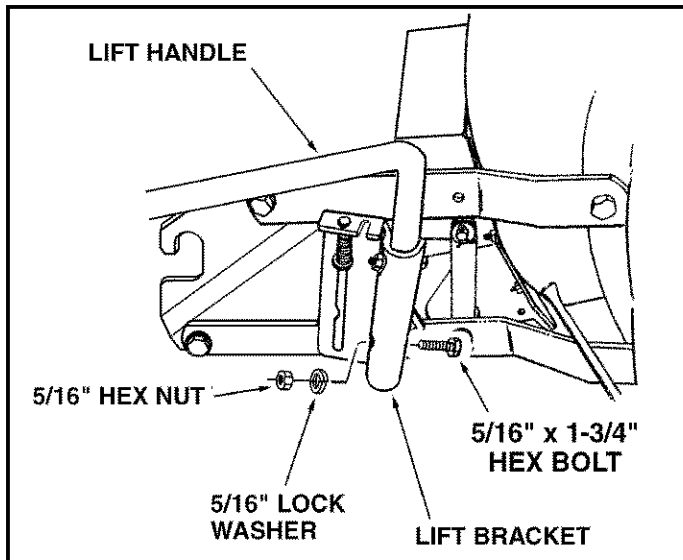

FIGURE 15 RIGHT SIDE VIEW
- Place the lift handle into the lift bracket on the right side of the snow thrower. Fasten the handle to the bracket using two 5/16" x 1-3/4" hex bolts, 5/16" lock washers and 5/16" hex nuts. See figure 15.